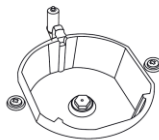

Figure 2
3. Remove the covers, as well as the burners of the four cooking zones to access the injectors (Figure 2).